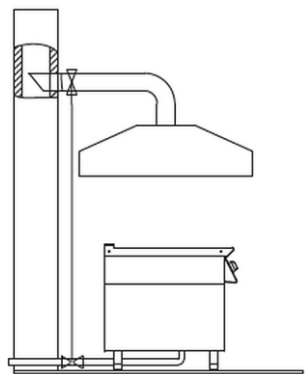

Fig. 3
- The end of the outlet pipe of the appliance must be mounted within the primary inlet opening of the hood. (Fig. 3).